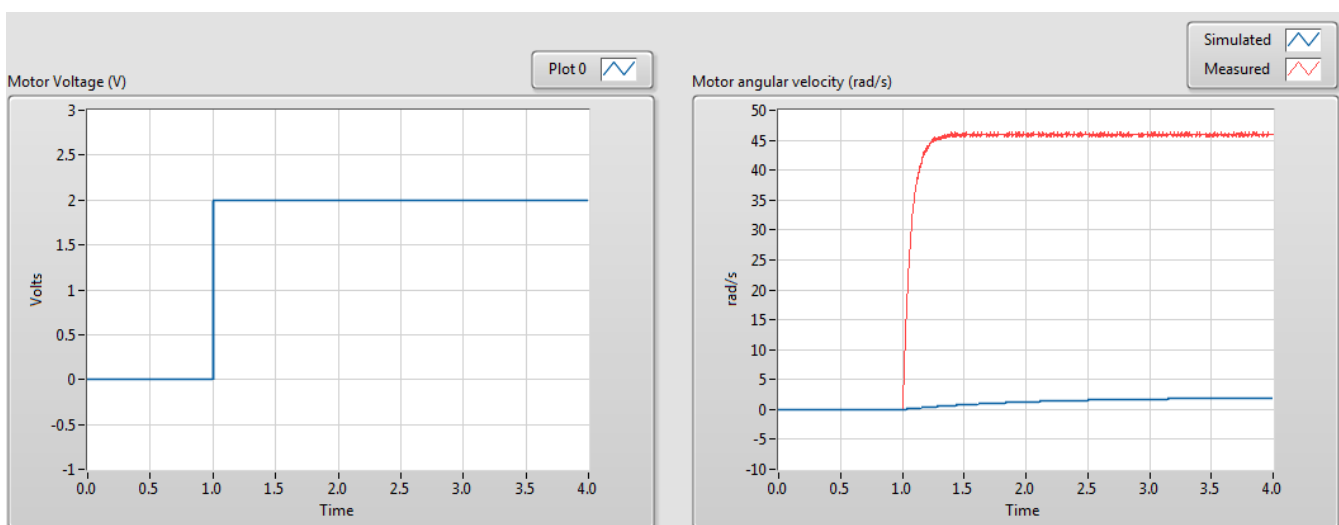

Figure 2.2: Simulated and actual step response of the 1st order motor-mass system.
- Run the VI by pressing button  on the toolbar to apply a 2 V step to the servo. The obtained step response should be similar to Figure 2.2 below (but not identical as you may be using a different disk to the one of this example).